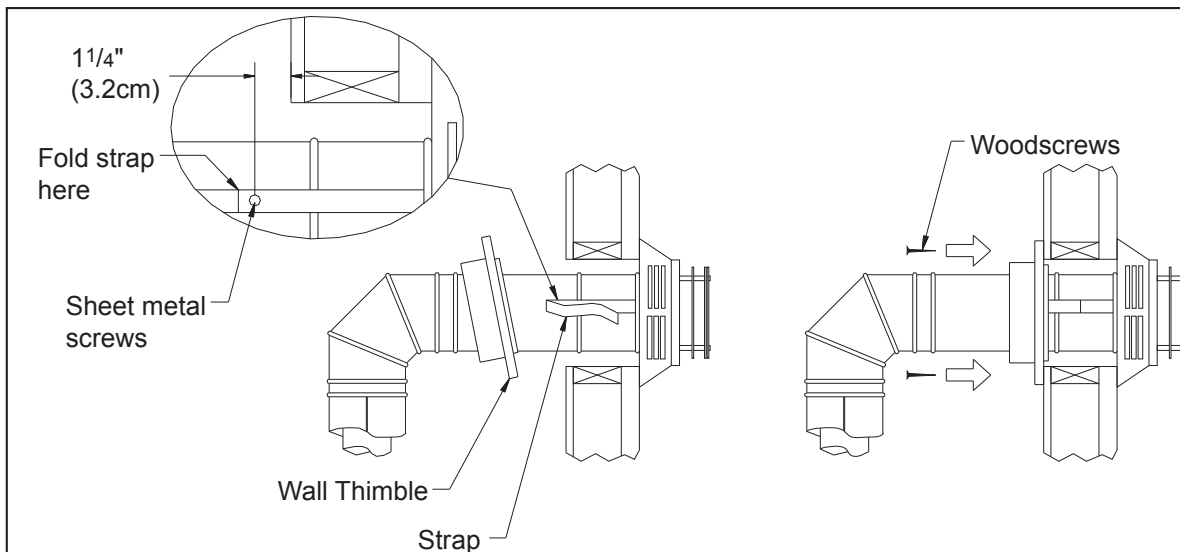

Figure 23: Installing Decorative Wall Thimble.
STEP 6. Slide the appliance and vent assembly towards the wall, carefully inserting the vent pipe into the cap assembly. It is important that the vent pipe extend into the vent cap a sufficient distance with a minimum of 1¼" (3.2 cm) overlap. Secure the connection between the vent cap pipe and the vent cap by attaching the two sheet metal straps extending from the vent cap assembly into the outer wall of the vent pipe. Use the two sheet metal screws provided to connect the straps to the vent pipe. Bend any remaining portion of the sheet metal straps back towards the vent cap, so the decorative wall thimble will conceal it (see left image in Figure 23).
STEP 7. Slide the decorative wall thimble up to the wall surface and attach with the screws provided. Apply decorative brass or chrome trim if desired (see right image in Figure 23).